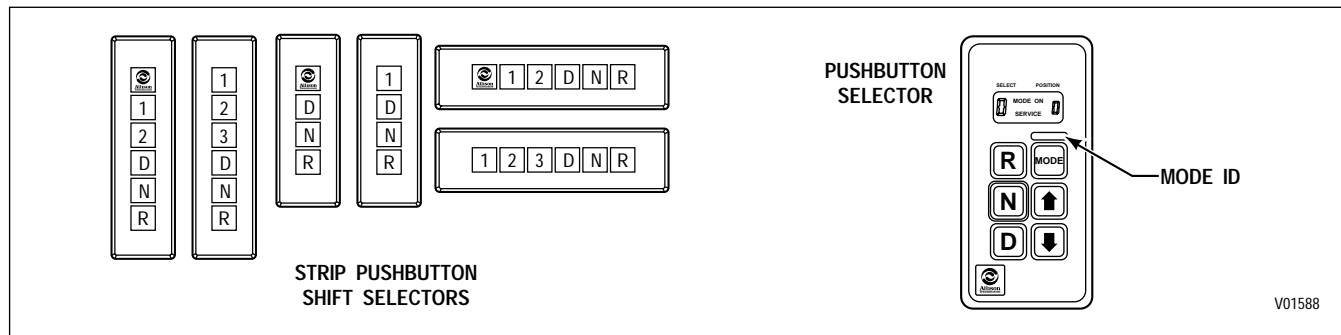

Figure 1-5. Pushbutton Shift Selectors
A. Pushbutton Shift Selector (Figure 1-5)